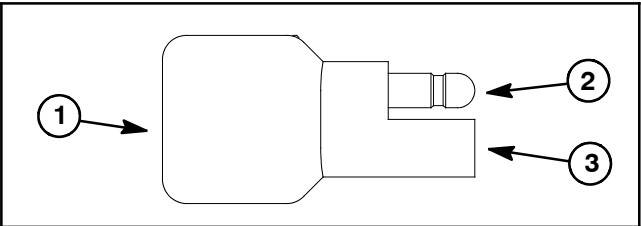

Figure 24
- 5. The diode (Fig. 24) can be tested using a digital multimeter (diode test or ohms setting) and the table in the right column.